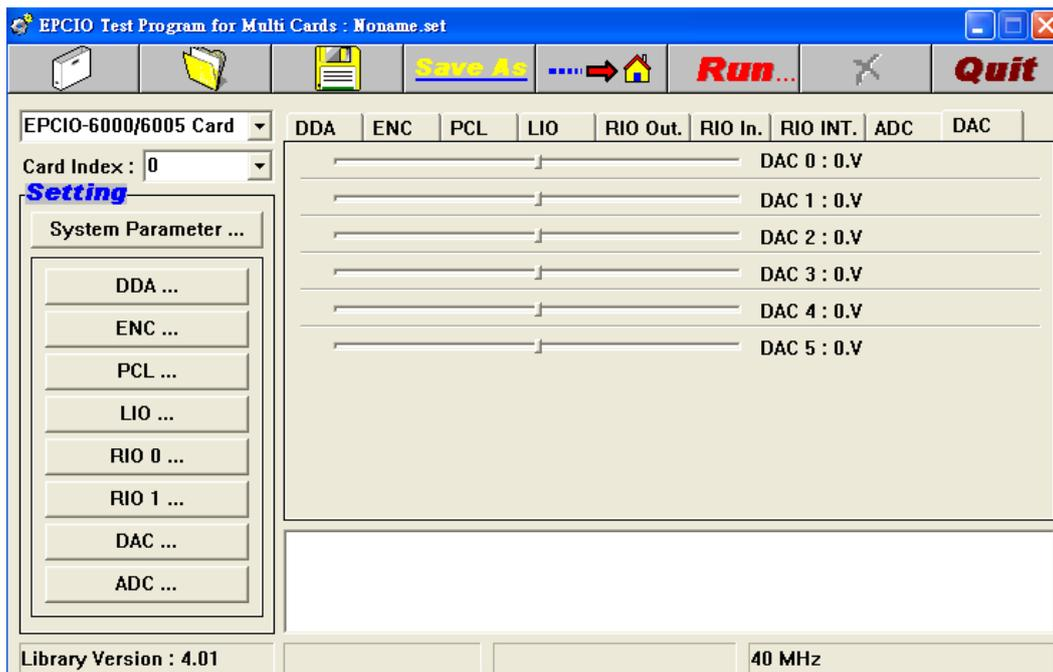

Figure 3-8.2
- D. Click Stop (X).
- ➔ In the DAC display area (as shown in Figure 3-8.2), adjust the value of each DAC channel to 0V.